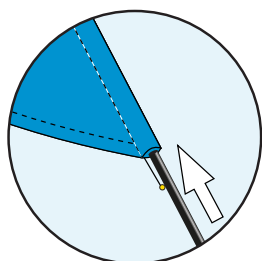
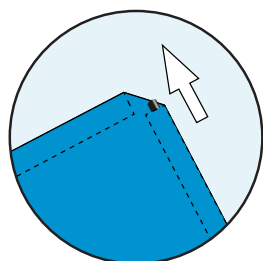

Fig 5.
Fig 6.
6. Take the 2.5m (28mm) top pole section with the cleat and joint at the bottom, and insert it into the bottom of the vertical sleeve. (Fig 5) Push it all the way up until it comes out the top of the sleeve. (Fig 6)